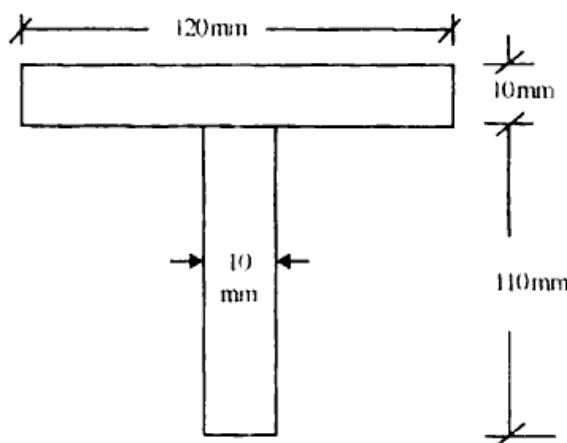

Fig. 9
- (b) Determine the shape factors of the T-Section as shown in Fig. 9.